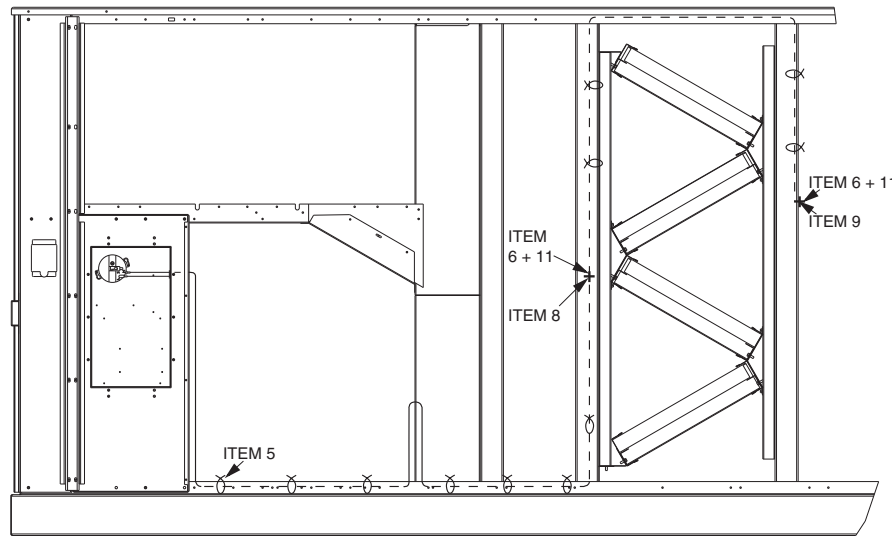
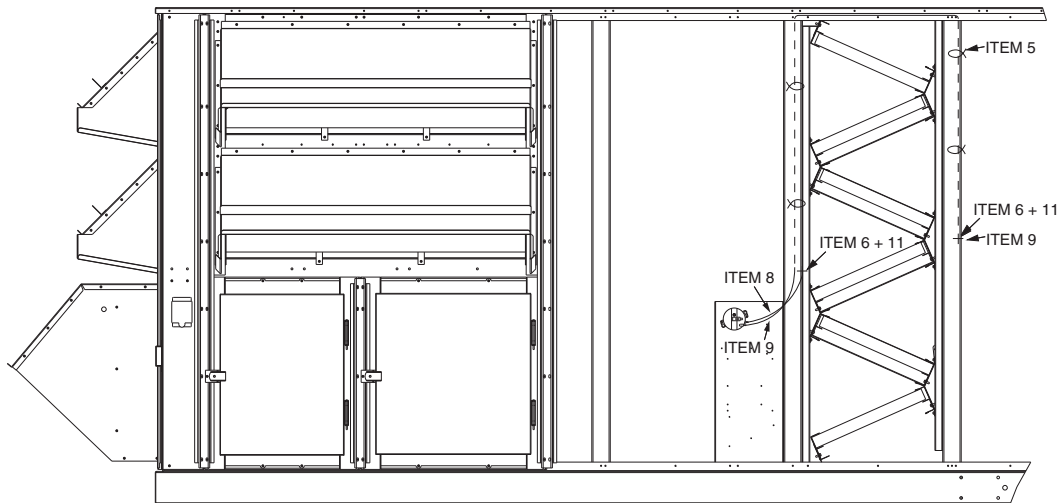
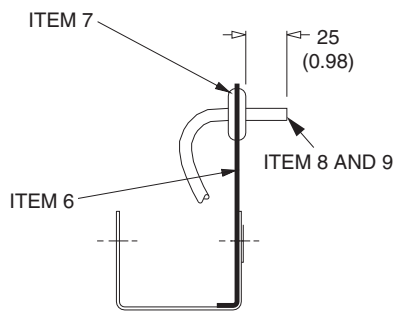

Fig. 4 — Tube Routing (48/50P030-050 and 48/50Z030-050 Units)
Fig. 5 — Tube Routing (48/50P055-100 and 48/50Z055-105 Units)
Fig. 6 — Tube Bracket
2. Mount one tube bracket (Item 6) on each side of the filter track using the screw (Item 11), as shown in Fig. 4 (size 030-050 unit) and Fig. 5 (48/50P055-100 and 48/50Z055-105 units). Mount grommets into the bracket holes, as shown in Fig. 6.
4. To install the downstream control tube, push the tube (Item 9) through the grommet, and route the tube around the top of the filter section, as shown in Fig. 4 and Fig. 5.
7. To install the upstream control tube, push the tube (Item 8) through the grommet, as shown in Fig. 4 and Fig. 5.